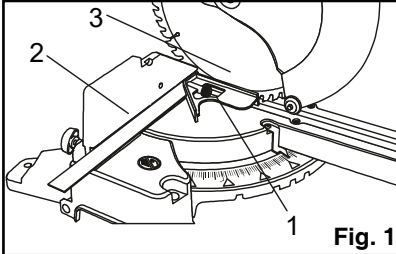
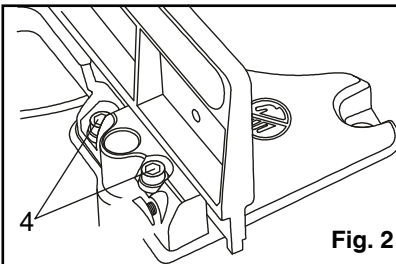
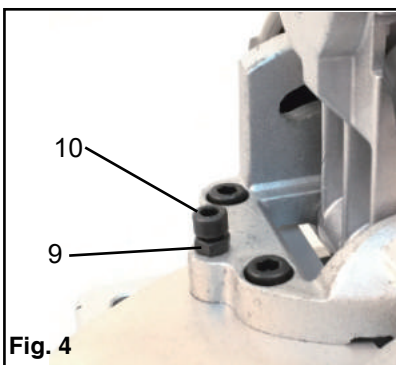

Fig. 1
Fig. 2
Fig. 4
1. Lower the head assembly and push in the lock pin to lock in the lower position. Make sure table is in 0° detent and tighten miter lock knob. Place a combination square (1) against the fence (2) and next to the blade (3) as illustrated. Locate the square properly so it does not contact the tooth of saw blade. The saw blade should contact the full length of the square. (Figure 1)
- Use a 3/16" hex wrench, loosen the hex cap screws (4) (Figure 2) behind fence (2). (Figure 1)
- Adjust the miter indicator (9 Figure 4). Loosen screw and align indicator to the 0° mark. (Fig. 1)
- Use an 11/32" open-end wrench to loosen the hex lock nut (9) and then use a 3/16" hex wrench to adjust the hex screw (10) up or down. (Figure 4)
- Check that bevel indicator (7) is pointing to the 45° mark on the bevel scale. If not, first recheck the blade squareness to the table and 0° bevel indicator alignment. Then, repeat the 45° blade alignment and make appropriate adjustments.